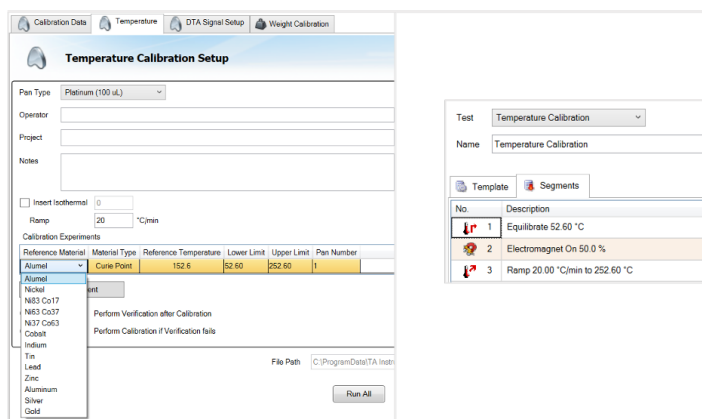

Figure 3. Temperature Calibration Setup for the TGA 5500 using Alumel
2. Go to the TRIOS file manager calibration panel, select the temperature tab and set up the temperature calibration by choosing the reference material from the dropdown menu, the method will automatically generate. The calibration file is scheduled, run, analyzed, and applied. Multipoint calibration can also be scheduled and performed automatically if an autosampler is available (figure 3).